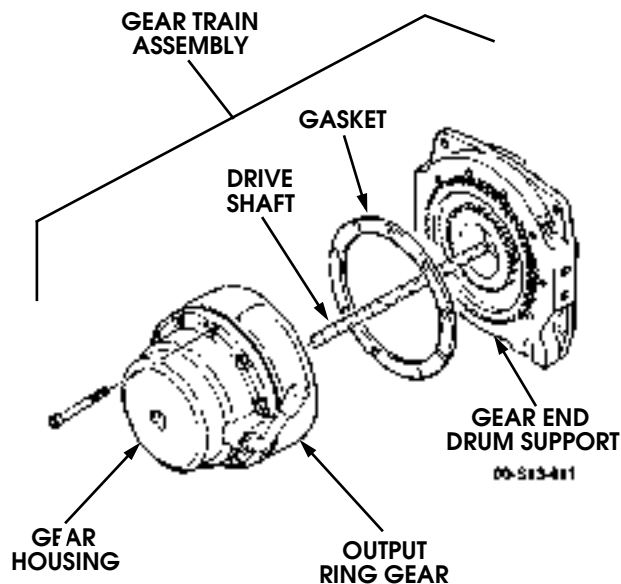

Figure 9-200: Gear Train Assembly
15. Install driveshaft in gear train assembly (Figure 9-200).